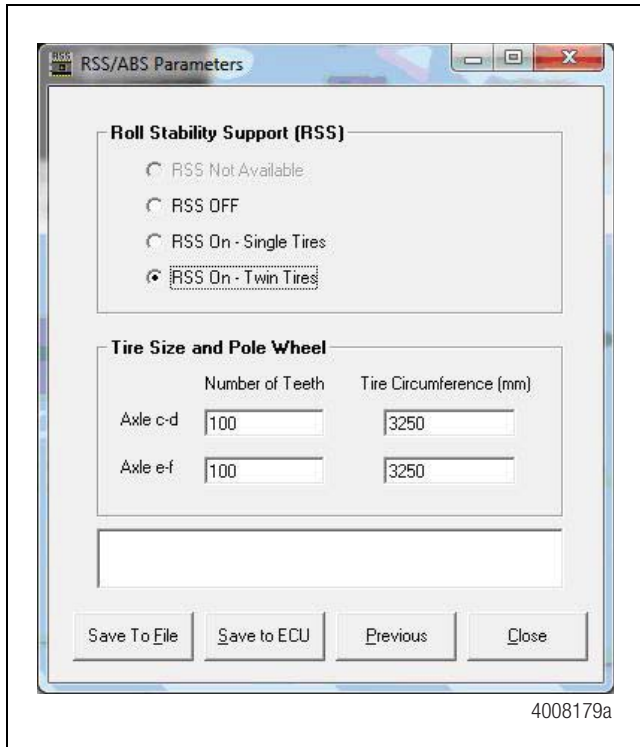

Figure 13
- From the parameter screen labeled *RSS / ABS Parameters*, press the **Save To ECU** button located at the bottom of the window. There is no change in parameters at this screen. Figure 13.